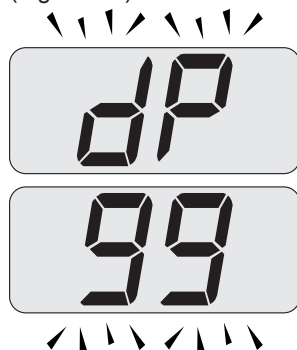

Fig. 10.19
- Press further key 18 to vary again the output in flue sweep mode: when the LCD display displays the letters **dP** that alternate with the heating water temperature value (e.g. **99**), the "flue sweep function" is at maximum output in domestic hot water mode (Fig. 10.19).